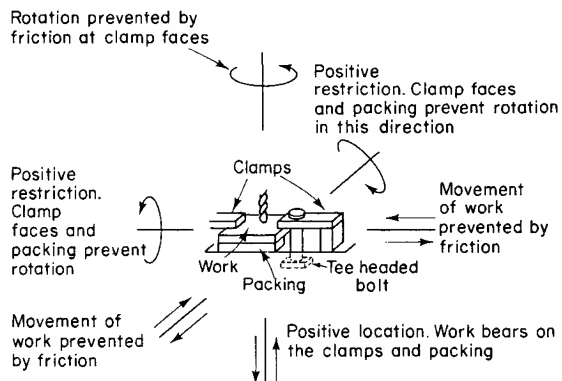

Fig. 4.45 Work clamped to prevent motion when drilling it
3. **Clamping.** Work often has to be clamped to prevent it moving under the action of cutting forces. Fig. 4.45 shows the principles of location and restraint when clamping. Note that the bolt provides the force needed to give the frictional resistance.